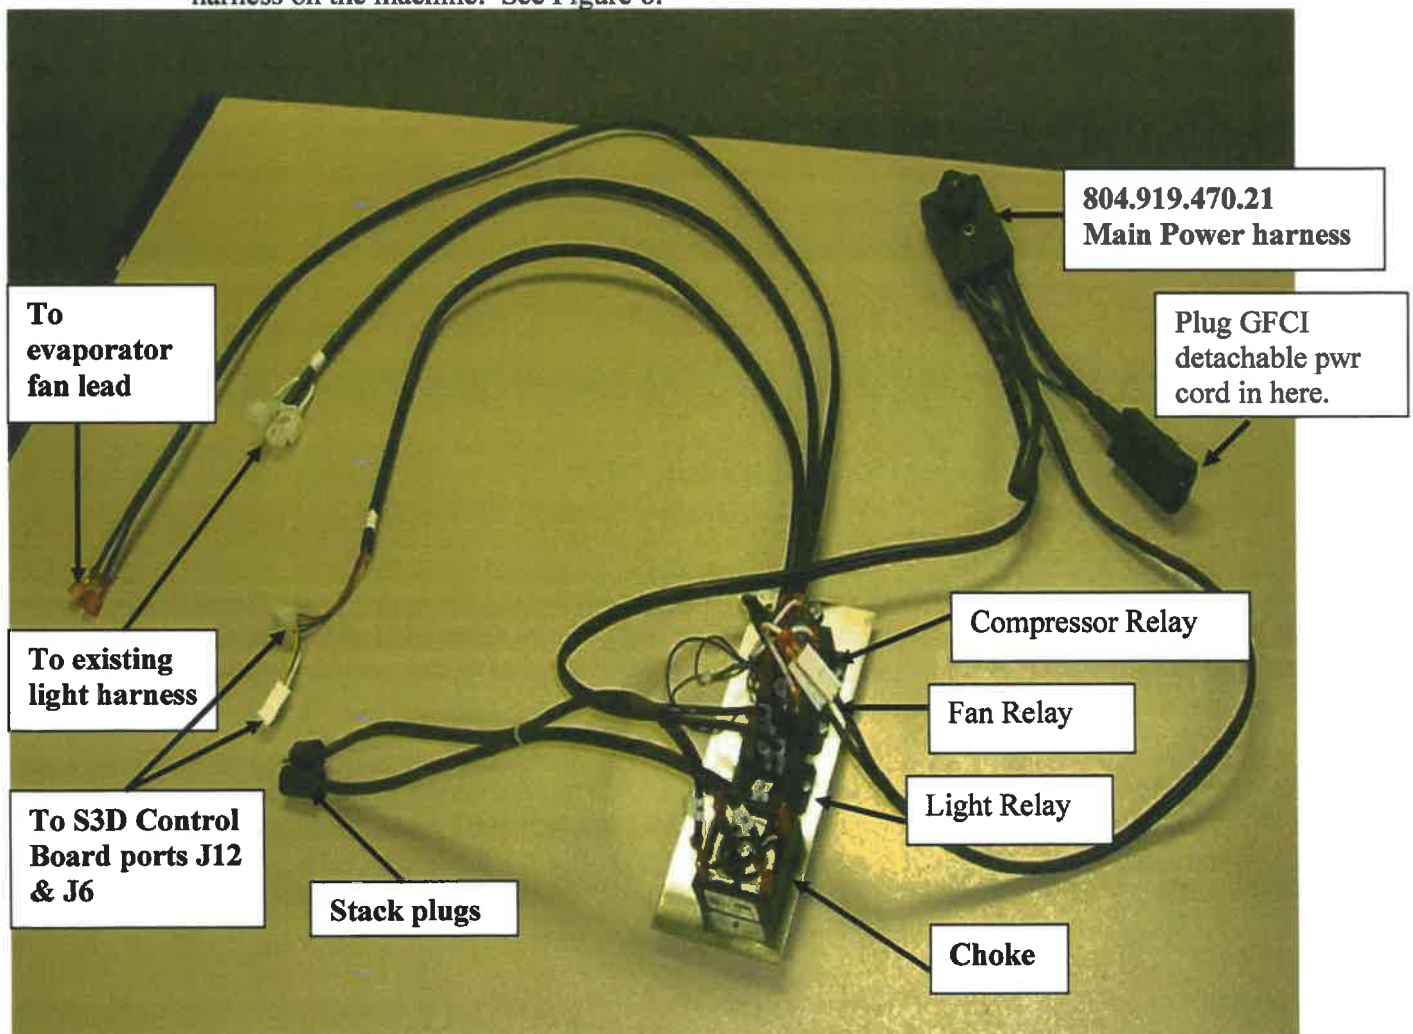

Figure 6
9. Install the new Main Wiring Harness (804,919,47x.x1) in the area where the existing Main Wiring Harness was removed. Use the existing mounting hardware removed in step 8. If the Environmental Kit has been assembled skip to "10g" and proceed. See Figure 6. To connect harness:
10. Install the new AC Light Harness (804,917,37x.x1). If the Environmental Kit has been assembled skip to "11c" and proceed. See Figure 6. To connect harness:
- c. Connect the plugs of AC Light Harness (804,917,37x.x1) to the plugs of the existing light harness on the machine. See Figure 6.